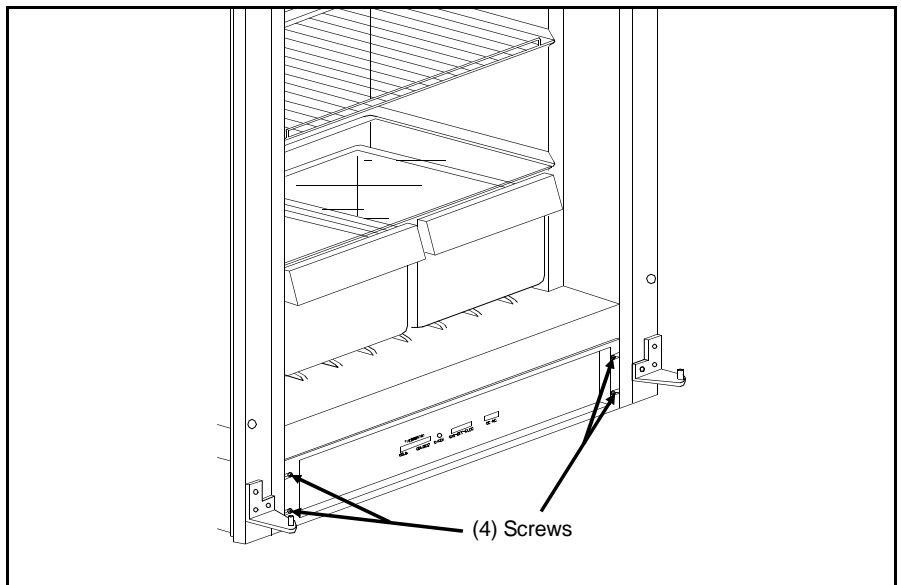

Figure 4.25 Access to PC Board
4. Remove the 4 screws shown in Figure 4.25.